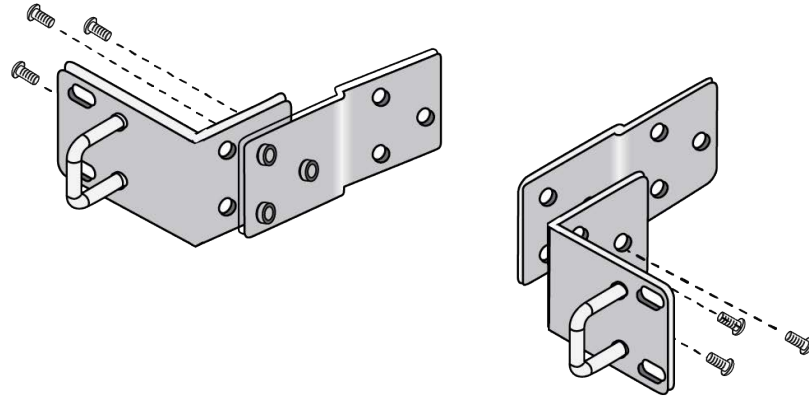

Figure 37. Attaching the Extenders to the RKMT-J13 Brackets
4. If you want to recess the front of the switch in the equipment rack 50mm (2 in.), attach the extenders to the brackets with six of the 4x8mm screws included in the kit. Refer to Figure 37 on page 74.